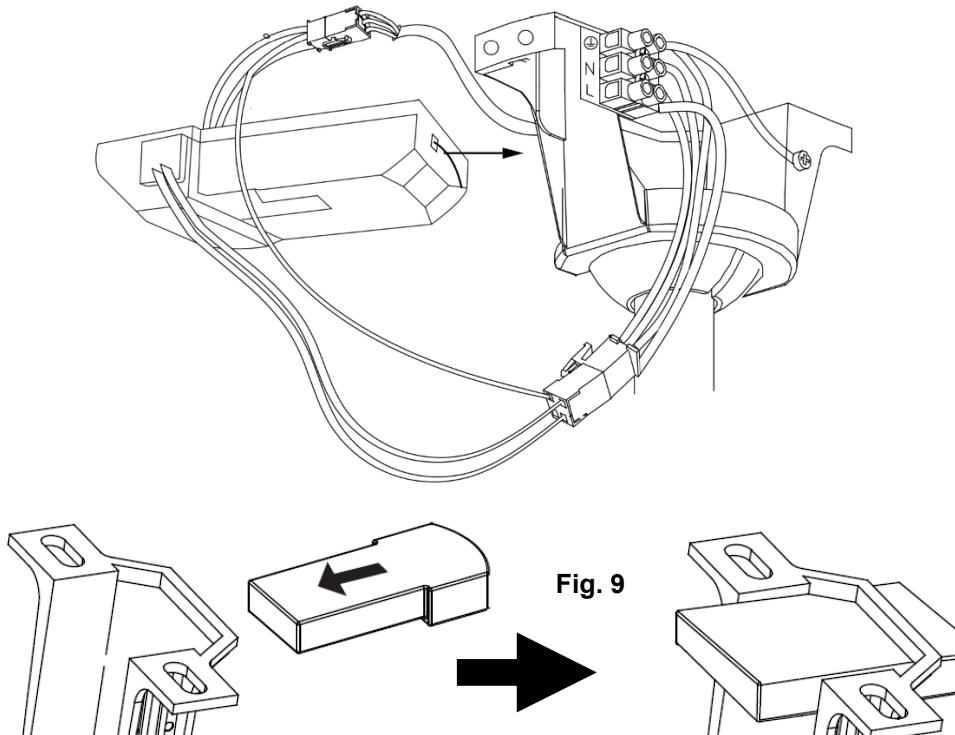

Fig. 9
- Carefully insert the Remote Receiver above the hanger ball in the remainder spacing in the mounting bracket. Take care not to damage or loosen any of the wiring. (Fig. 9).